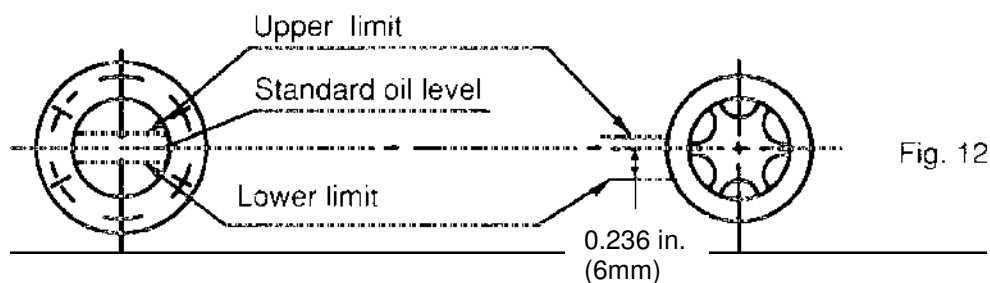

Fig. 12
- (a) Ensure the volume and quality of lubrication oil are in compliance with specifications. See figure 12.